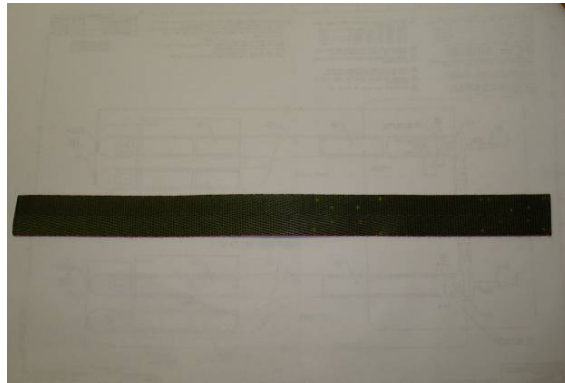

Figure 37. Diagonal Back Strap Keeper.
10. Obtain a new pre-manufactured diagonal back strap keeper (Figure 37) supplied in the MWO kit.